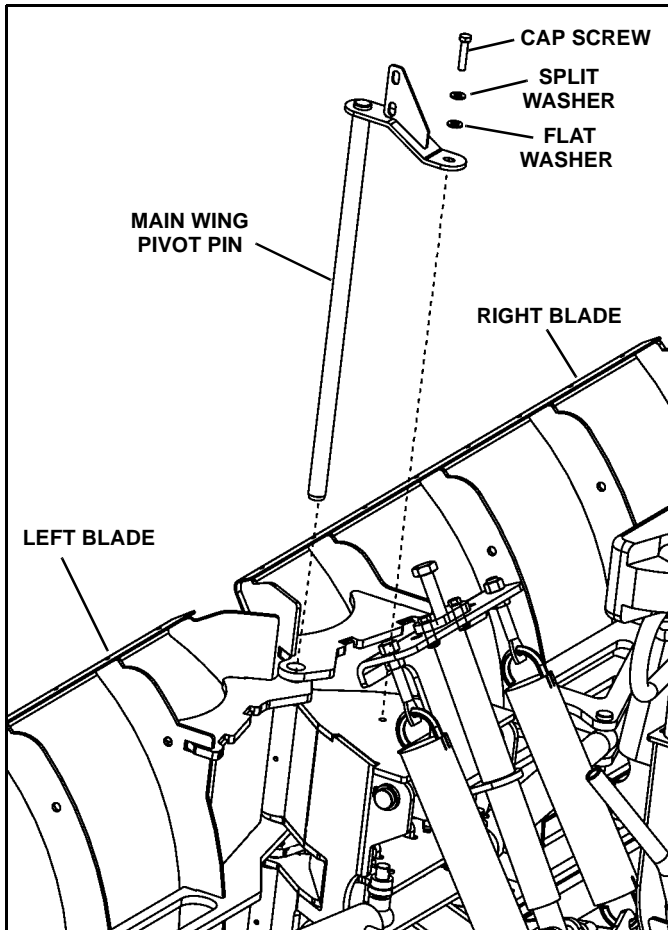

Figure 1-7
8. Coat main wing pivot pin with grease and insert completely through the tower, blade section pin holes, and support plate holes. (See Figure 1-7).